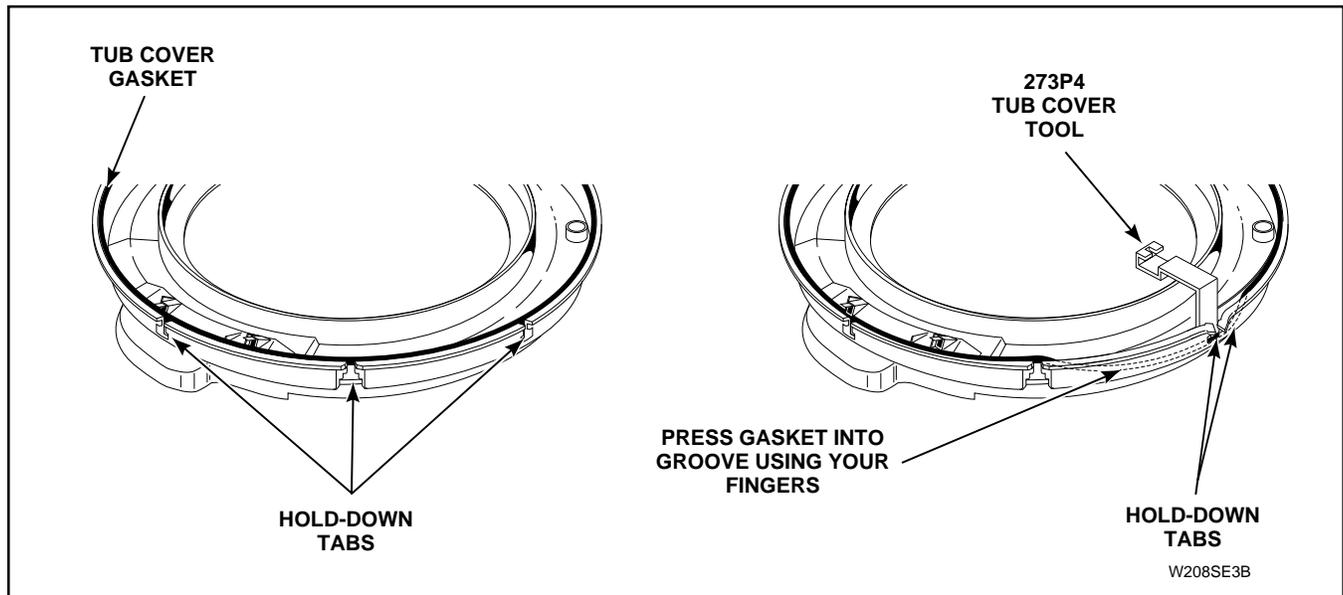

Figure 35
- e. Lay gasket into gasket groove of tub cover, *Figure 35*.